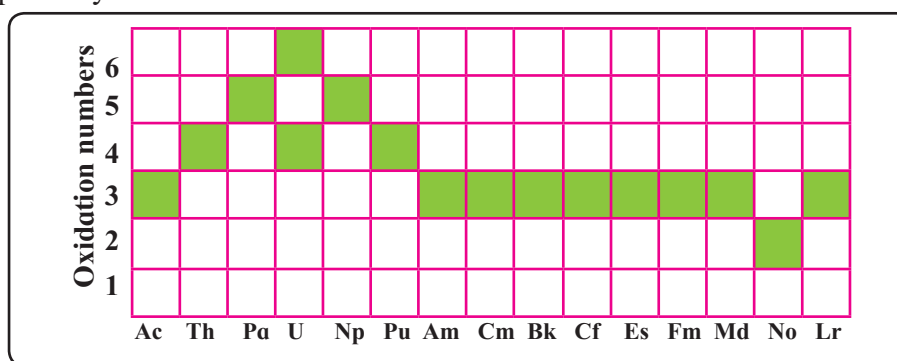

Fig. 8.7 The most common oxidation numbers of actinoids
8.14 Actinoids : The last row of elements in the periodic table is the actinoid series. It begins at thorium (Z =72) and ends at lawrencium (Z=103). Most of these elements are not found in nature. They are all radioactive and man-made. The half-lives of the isotopes of thorium (Th-232=1.4 x 10¹⁰ years) and uranium (U-238=4.5 x 10⁹ years) are so long that these elements exist in rocks on earth. The long lived isotopes such as thorium, protactinium, uranium, neptunium, plutonium and americium, are studied in more details. These elements have high densities (~ 15-20 g cm⁻³), high melting points (~1000 °C) and high boiling points (~3000 °C). Actinoids are less reactive than lanthanoids. For example, they react with hot, but not cold water to give the hydroxide and hydrogen gas. Unlike lanthanoids, they exhibit a range of oxidation numbers in their compounds which varies from +2 to +8. The most common oxidation numbers of the actinoids are shown in Fig. 8.7.
As can be seen from Fig.8.7, the most common oxidation state of early actinoids reflects the loss of all outer electrons which is similar to transition metals than the lanthanoids. A ready loss of 5f electrons by early actinoids indicates that these electrons are much closer in energy to 7s and 6d electrons than the 4f electrons to 6s and 5d electrons as in lanthanoids. All three sets of orbitals that is 6d, 5f and 7s have similar energies. For Th, Pa and Np difference in energy levels is small
The electronic configuration of actinoids is $[Rn] 5f^{0-14} 6d^{0-2} 7s^2$, where Rn is the electronic configuration of radon. As seen from Fig. 8.7, the most stable oxidation state in actinoids is +3. The highest common oxidation states of early actinoids reflect the loss of all outer electrons which is similar to transition metals than lanthanoids. For example, uranium has electronic configuration of $[Rn]7s^25f^36d^1$. The formation of +6 oxidation state corresponds to an electronic configuration of $[Rn]$. Similar to lanthanoids, loss of s and d electrons occur before f electrons, in formation of 3+ ions. A ready loss of 5f electrons by early actinoids indicates that these electrons are much closer in energy to 7s and 6d electrons than the 4f electrons are to 6s and 5d electrons in the lanthanoids. In turn, 5f and 6d orbitals expand as they are partially shielded from the nuclear